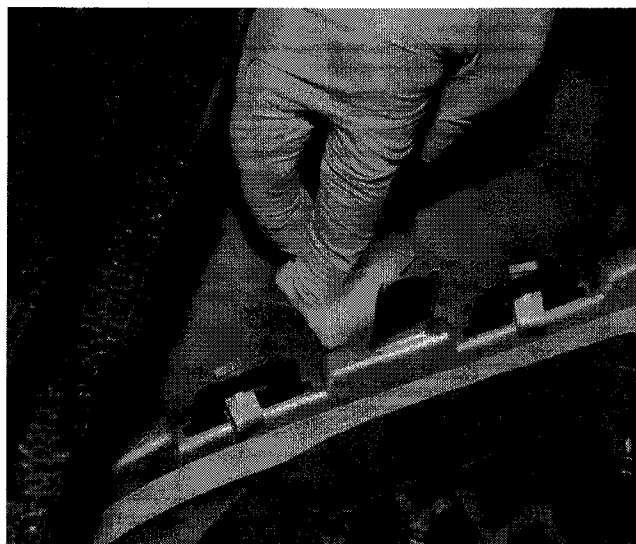

Fig. 9 Adhesion Promoter Application
14. Apply a thin layer of adhesion promoter to the prepared mounting surfaces on the back side of the fascia (both left and right mounting surfaces)(Fig. 9).